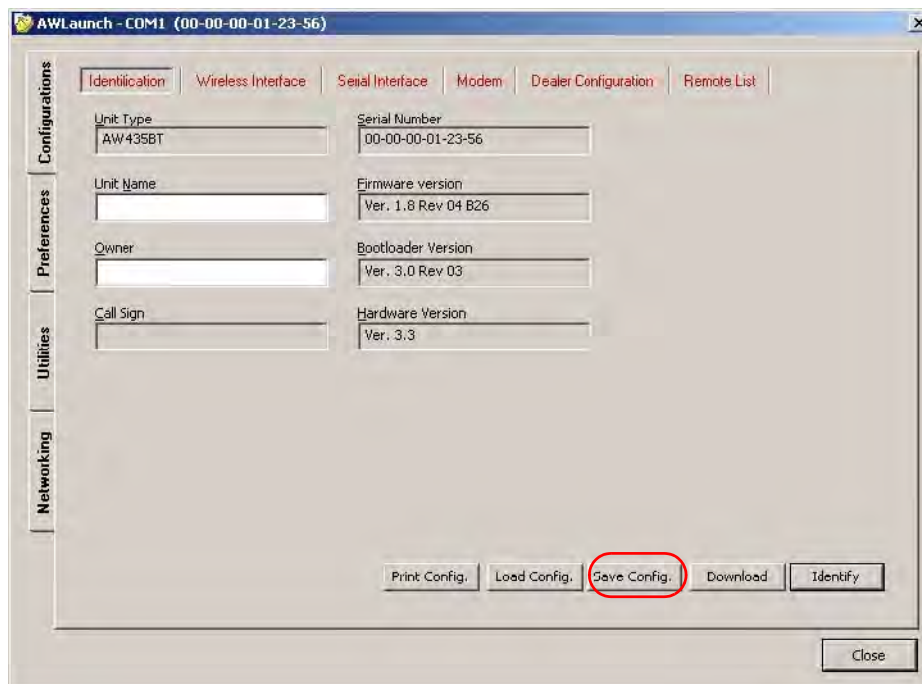

Figure 2-6. Identification tab
5. Once the connection is established in the *Configurations* tab *Identification* subtab the unit's information will appear (Figure 2-6), i.e. unit serial number, firmware, hardware and boot loader versions:
- To save the changes click *Save Config.* button (see Figure 2-6).